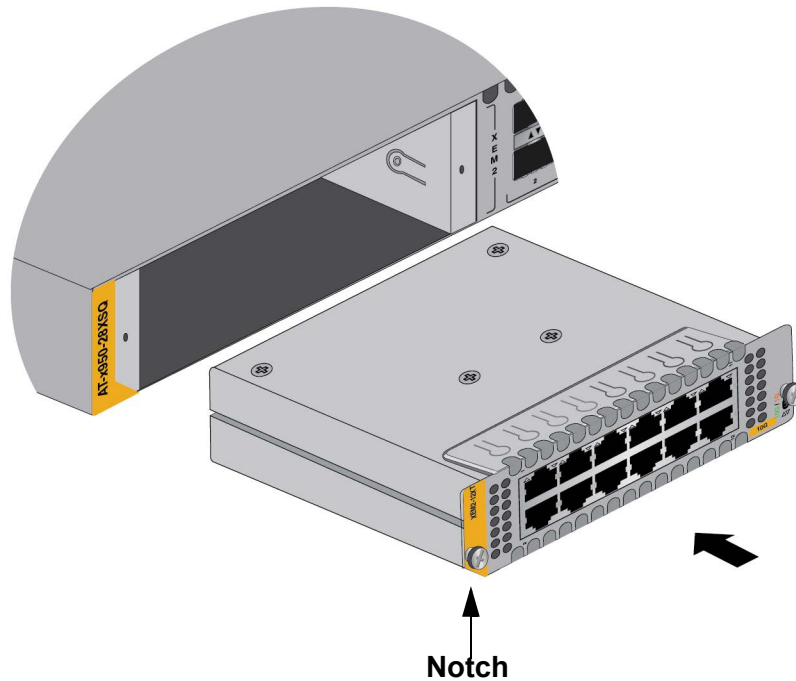

Figure 78. Sliding the Ethernet Line Card into the Slot
3. Position the line card with the notch on the faceplate in the bottom left corner, as shown in Figure 78, and carefully slide it into the slot.